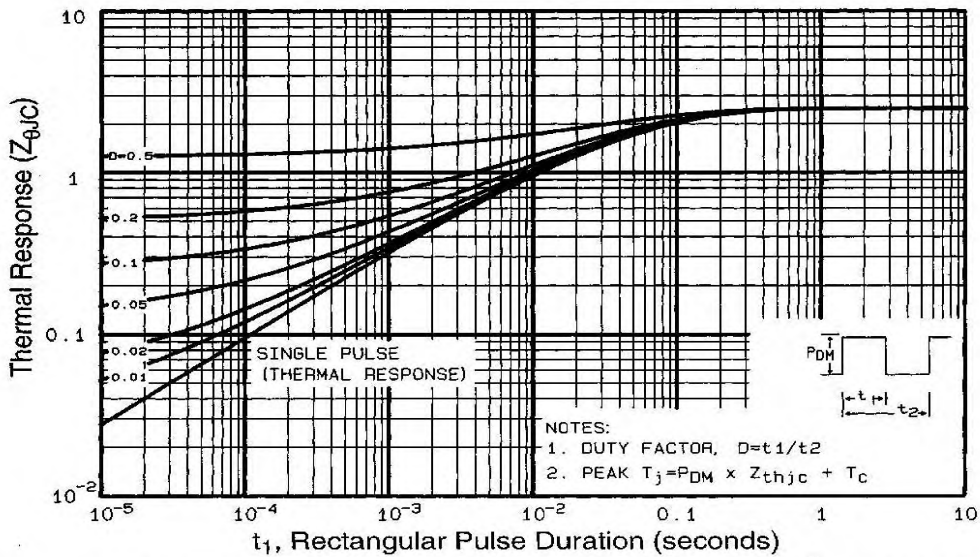

Fig 11. Maximum Effective Transient Thermal Impedance, Junction-to-Case
① Repetitive rating; pulse width limited by max. junction temperature (See Figure 11)
③ $I_{SD} \leq -6.8A$, $di/dt \leq 110A/\mu s$, $V_{DD} \leq V_{(BR)DSS}$, $T_J \leq 175^\circ\text{C}$